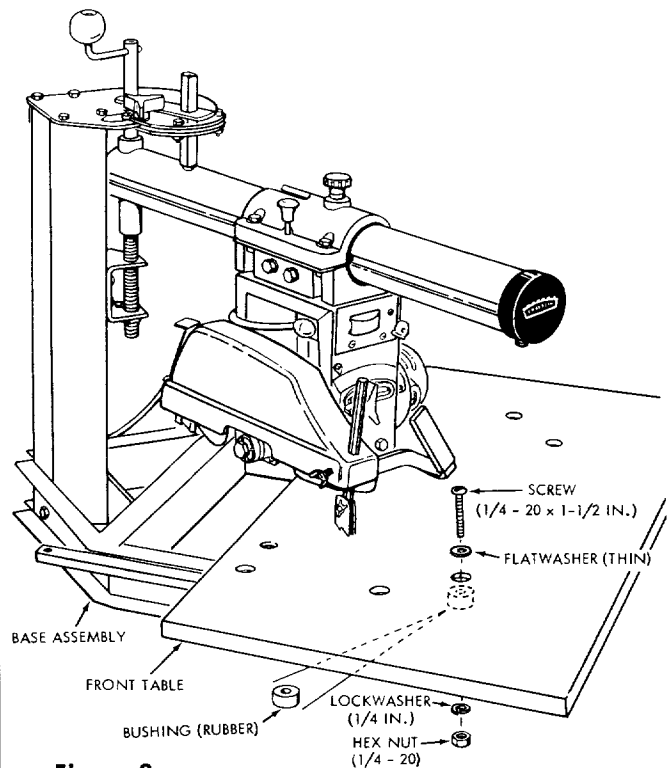
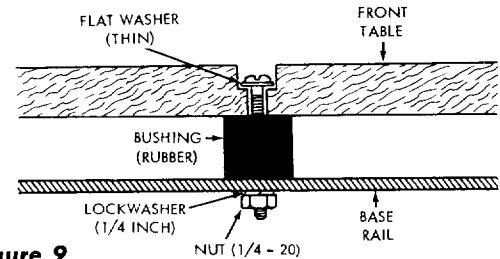

Figure 8
Figure 9
- Place the front table in position on the base assembly, aligning holes in table with holes in base rails. (See figure 8.)
- Raise the front table and slide a rubber bushing (figure 9) between the table and base rails at each of the four attaching holes. Align holes in bushings with holes in table and base rails. (See figure 8.)
- a. Elevate the radial arm to near its upper limit by rotating the lift crank (figure 8).